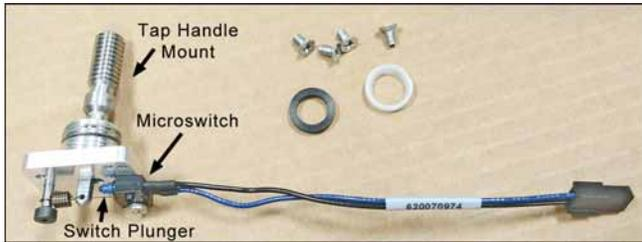

Figure 6-18 - Tap Handle Microswitch Assembly
- 5) Remove the 4 screws securing each tap-handle switch assembly to the metal bracket and disconnect the wiring leads (Fig. 6-18).